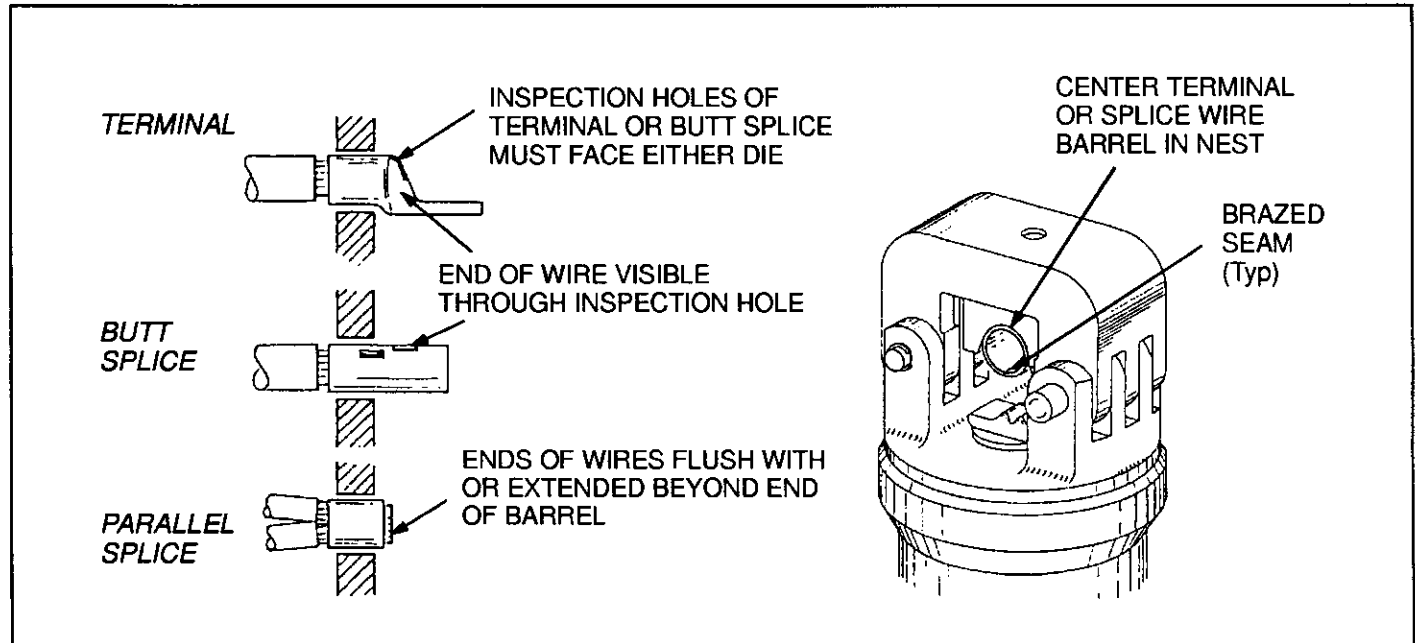

Fig. 4
2. Center terminal or splice in nest as shown in Figure 4. For best results, when brazed seam on terminal or splice is visible, position seam toward indenter.